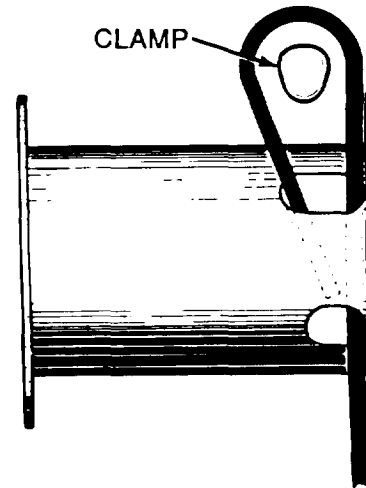

Figure 2-6. *Securing Cable on Winch*
3. Insert cable into small opening of cable pocket. Loop cable around clamp and back into pocket about 3/4 of the way through the pocket. Use cable clamp for 1/2 in. cable (refer to Koehring Commercial Parts Manual). Insert small end first. Pull on cable and the clamp will slip into the pocket, securing the cable (Figure 2-6).